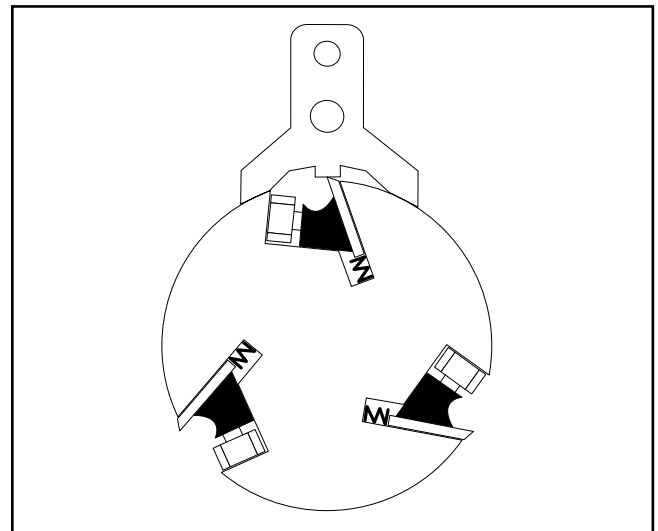

Figure 15. Proper knife setting jig placement.
3. Place the knife setting jig over the knife on the cutterhead as shown in **Figure 15**. The knife setting jig will push the knife into position in the cutterhead.